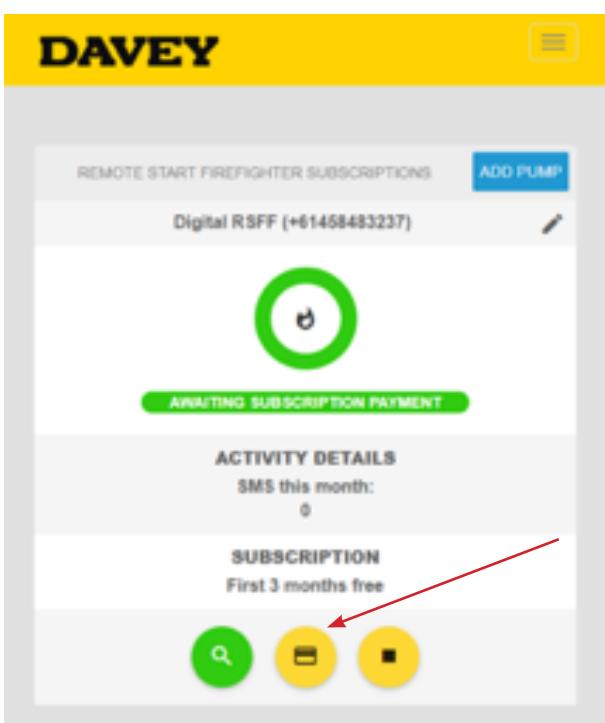

Figure 7.17
- > To make a payment, or renew a subscription, click the "CARD" symbol (*Figure 7.17*);